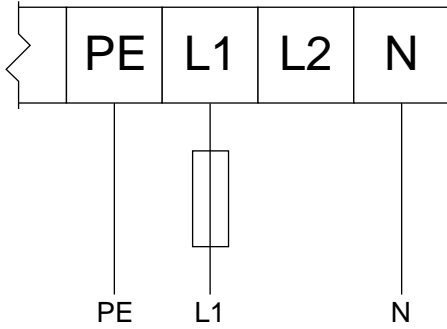

Figure 8 120 Vac 1 Phase Input/240 Vac 3 Phase Output
- Connect the power supply wires to the power terminals in the VFD box. See Table 3 and Figs. 8–12, as applicable for your system.